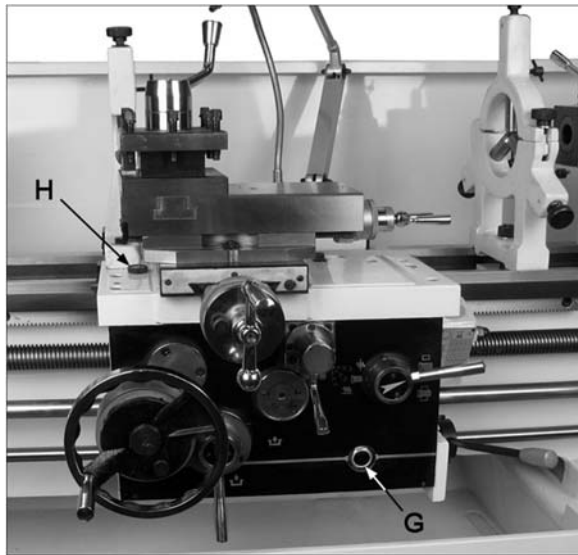

Figure 11 – Lubrication points
4. **Apron** – Oil must be between indicator marks in the oil sight glass (G, Figure 11). Top off with SAE 20W oil. Unscrew oil plug (H, Figure 11) to fill. To drain, remove drain plug on the underside of apron. Drain oil completely and refill after the first three months of operation. Then, change oil in the apron annually.